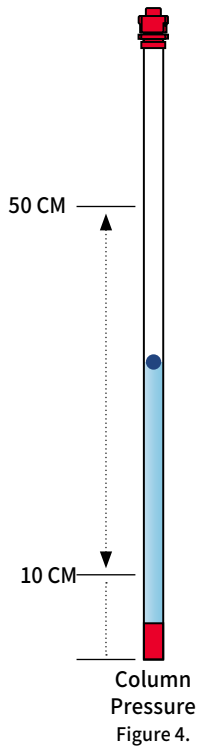

Figure 4.
- On Day 2 reduce water column pressure to 25 cm. Make further water column pressure adjustments either lower or higher in order to maintain a water depth no greater than 6 mm in the green reservoir throughout the production cycle. See Figure 4 on the front side.